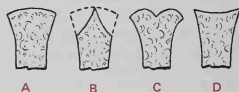

Fig. 4-74. Suggested end designs for band iron. (A) Fan shaped; (B) Arrow head; (C) Fish tail; (D) Flared.
3. Cut the stock to the correct length. Decorate the surface and the ends of the stock as desired. See Figs. 4-74 and 4-75. Select the bending device and clamp it in a vise or to a bench, Fig. 4-67.
The ends of band iron can be made attractive and their appearance improved by grinding, filing, cutting, or hammering. Some possible shapes are shown in Fig. 4-74. To make a shape like (b), first lay out the